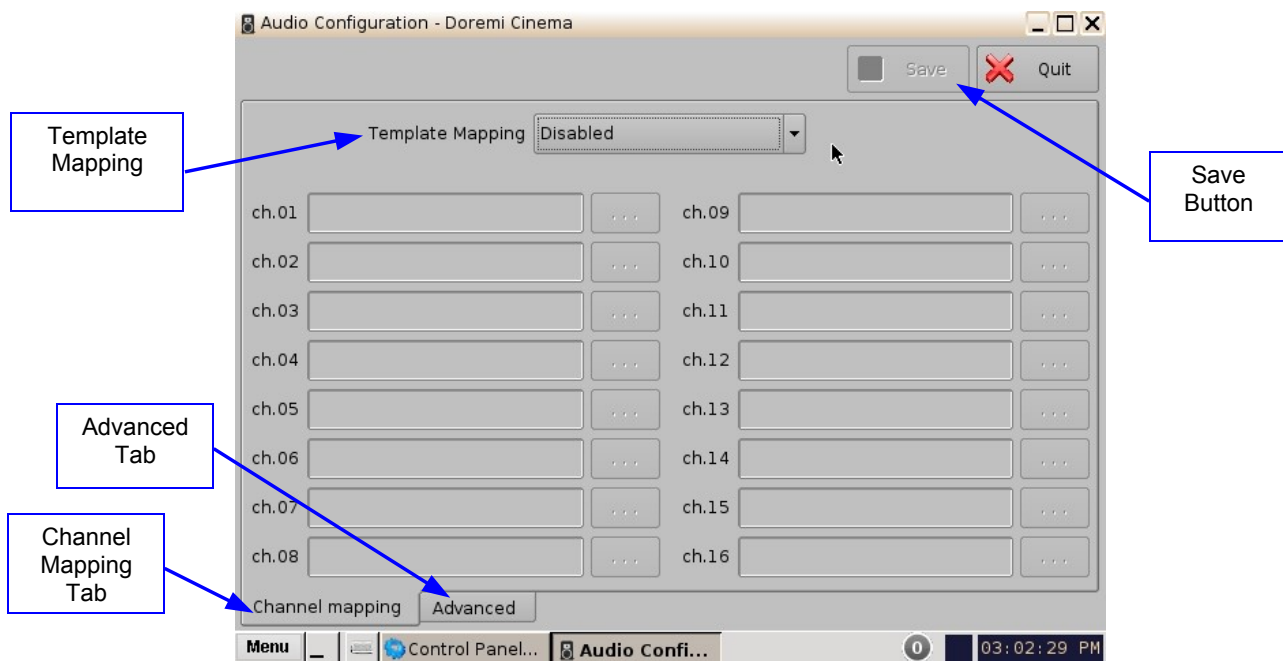

Figure 28: Audio Configuration - Default Setting
- When first launched, the Audio Configuration application opens in the Channel Mapping tab. The Template Mapping will be set to Disabled (Figure 28).